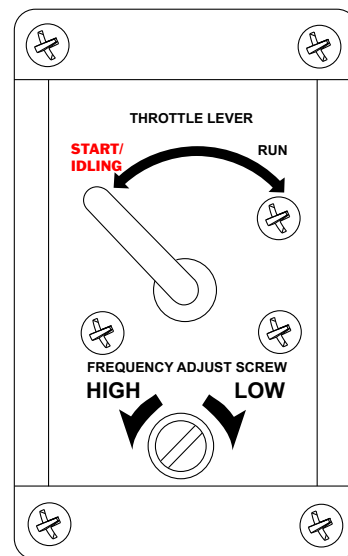

Figure 57. Throttle Lever (Start/Idling Position)
3. Place **throttle lever** (Figure 57) in the start idling position.